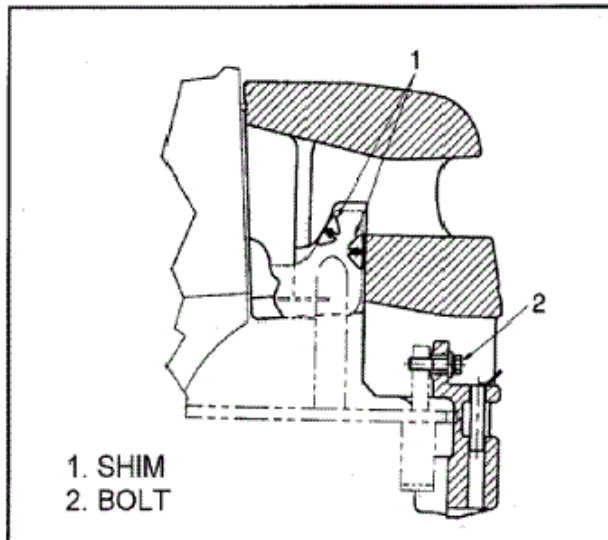

**FIGURE 6**
**Removal (See FIGURE 6)**
2. See FIGURE 6. Rout the wires through the left and right lifting holes on the upper surface of the counterweight. Connect a crane to wires and raise the crane until it holds part of the weight of the counterweight.